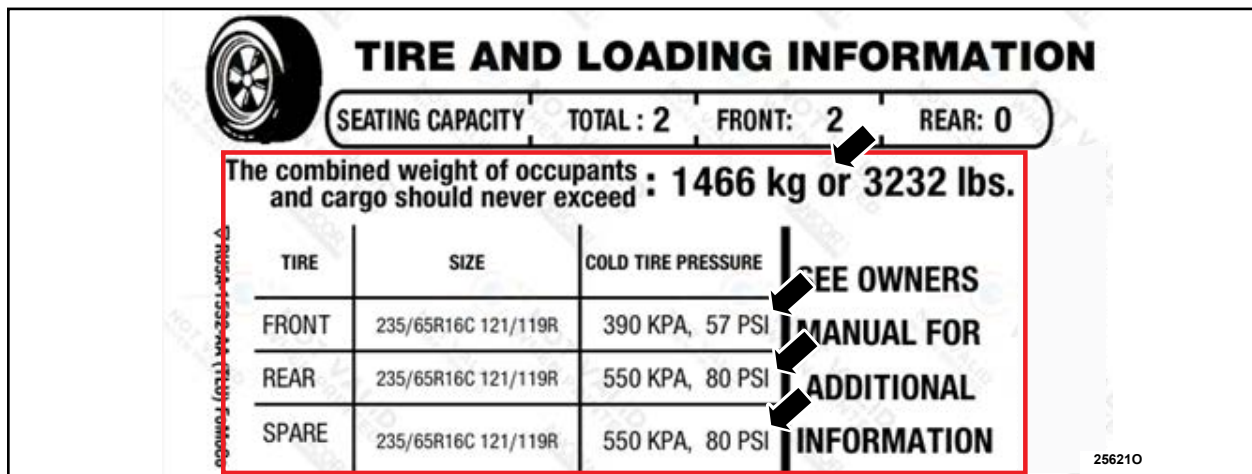

FIGURE 1
1. Inspect the TREAD act label found on the driver-side door jamb. Does the TREAD label have the correct Vehicle Identification Number (VIN) and same tire and loading information as shown in Figure 1?
3. Confirm the VIN on the vehicle matches the VIN on the *new* labels being installed. See Figure 1.